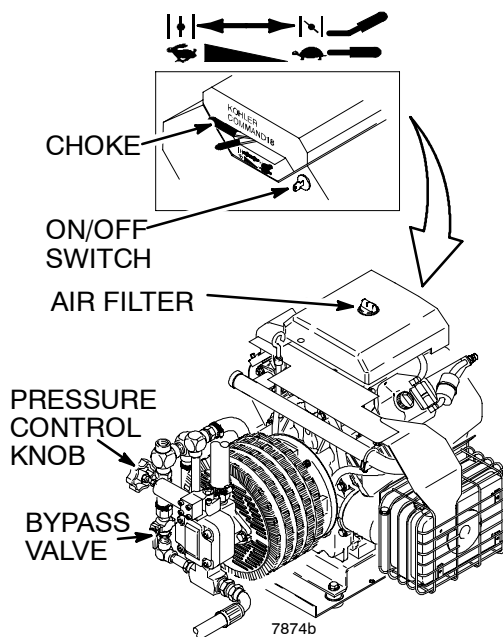

Fig 6
- a. Open the bypass valve to make startup easier. In the open position, the valve lever is parallel to the body of the valve. See Fig 6. Close the filter drain valve.
- d. If the engine is cold, close the choke by moving the choke lever. See Fig 6.
3. Turn and hold the ignition key to START until you hear the engine "catch", then release the key to RUN. See Fig 6. If the engine does not start, open the choke a little (move choke lever). If the engine floods, open the choke all the way and try again.
- e. After the engine is warm, gradually open the choke lever (move choke lever) and close the bypass valve. See Fig 6.
To stop the engine in an emergency, turn OFF the ignition key. Close the bypass valve if possible. See Fig 6. Then follow the **Pressure Relief Procedure Warning on page 10.**
- f. Squeeze the trigger and *slowly* turn the pressure control knob *clockwise* just enough to start the pump. See Fig 6.